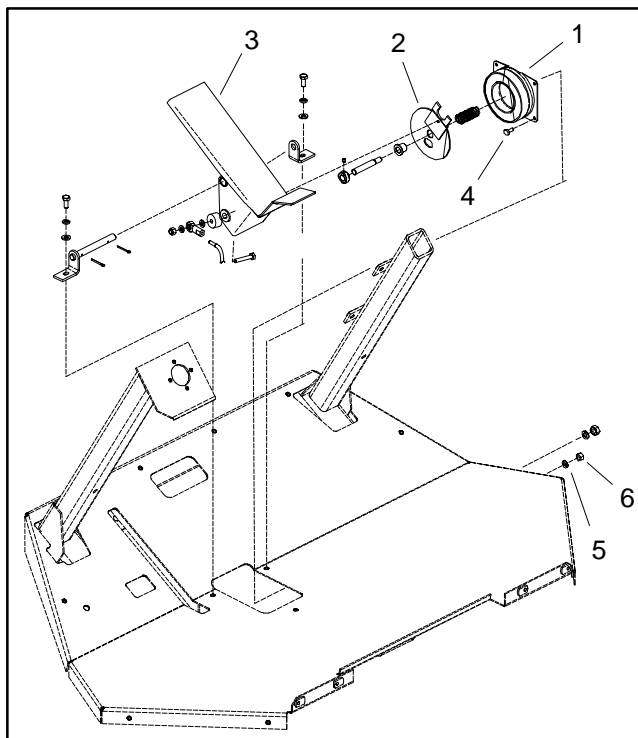

Figure 14
1. Make sure ignition switch is off. Locate control coil next to traction pedal under the floorboard (Fig. 14). Unplug coil connector from machine wire harness.